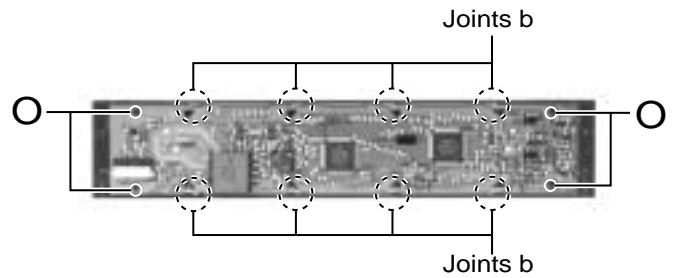

Fig.11
■ Removing the Front Board (See Fig.11)